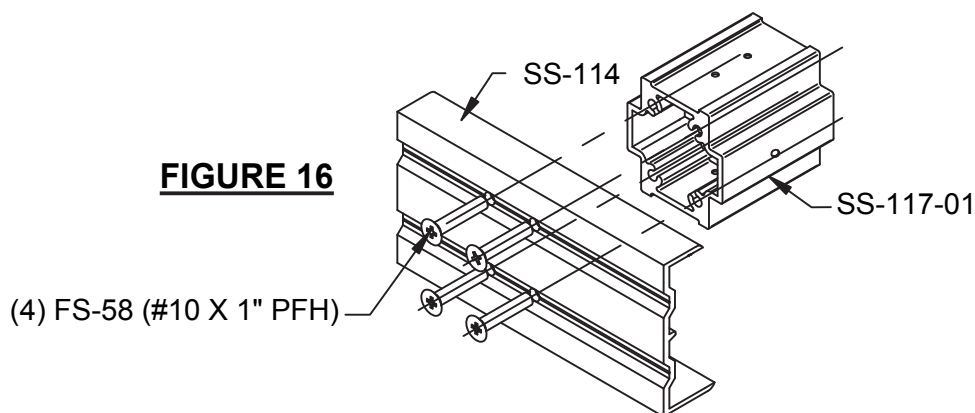

FIGURE 16
- 4.4) Attach the SS-117-01 shear block to the SS-114 wall mount using (4) four FS-58 (#10 x 1" pfh) fasteners. See FIGURE 16. Optional assembly: Attach SS-116 strut to SS-114 wall mount with (4) FS-58 fasteners. See FIGURE 17.